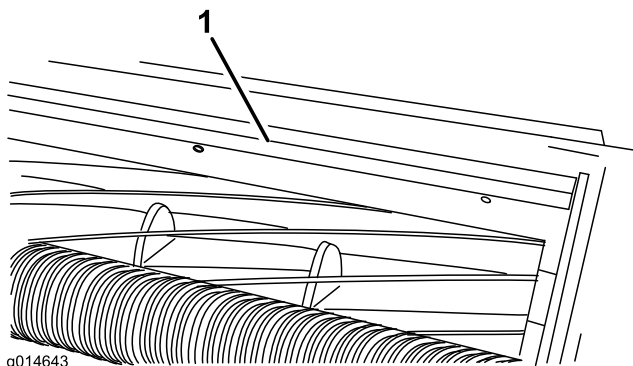

Figure 4
1. Loosen the bolts securing the top bar (Figure 4) to the cutting unit.